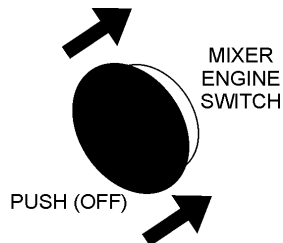

Figure 17. Engine ON/OFF Switch (OFF)
NEVER disable or disconnect the engine start/stop switch (Figure 17). It is provided for operator safety. Serious Injury may result if it is disabled, disconnected or improperly maintained.
2. After the engine cools, push the engine ON/OFF switch inward to the "**OFF**" position (Figure 17).